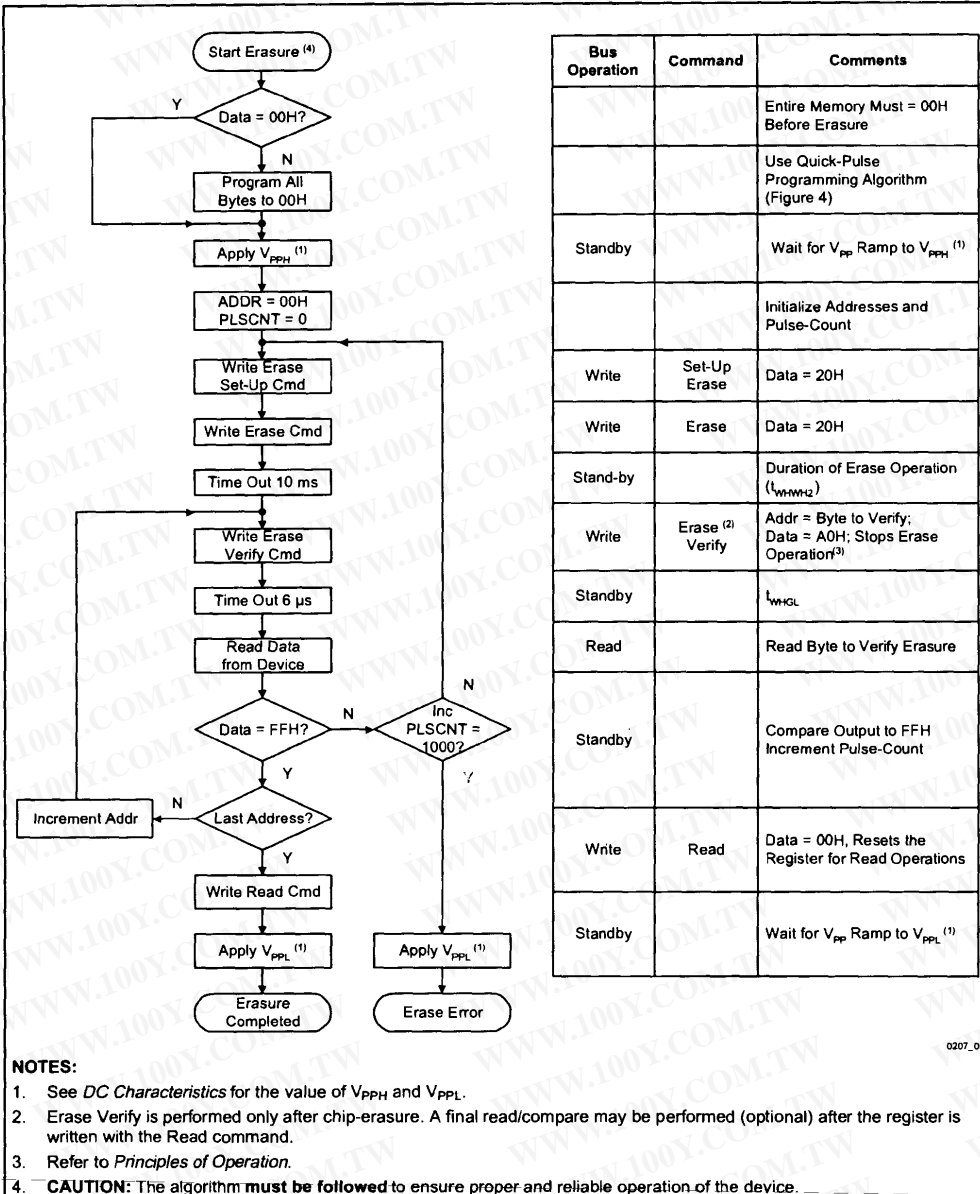

Figure 5. 28F010/28F020 Quick-Erase Algorithm
- Figure 5 illustrates the 28F010/28F020 Quick-Erase Algorithm flowchart.
In the case where the data read is not FFH, another erase operation is performed. (Refer Section 2.2.2.3, *Set-Up Erase/Erase Commands*.) Verification then resumes from the address of the last-verified byte. Once all bytes in the array have been verified, the erase step is complete. The device can be programmed. At this point, the verify operation is terminated by writing a valid command (e.g., Program Set-Up) to the command register. Figure 5, the *28F010/28F020 Quick-Erase Algorithm* flowchart, illustrates how commands and bus operations are combined to perform electrical erasure of the 28F010 and 28F020. Refer to *AC Characteristics—Write/Erase/Program Only Operations* and waveforms for specific timing parameters.
The 5 Volt Bulk Erase applies an internally-generated margin voltage to the byte. A microprocessor read cycle outputs the data. A successful comparison between the programmed byte and true data means that the byte is successfully programmed. Programming then proceeds to the next desired byte location. Figure 5, the *28F010/28F020 Quick-Pulse Programming Algorithm* flowchart, illustrates how commands are combined with bus operations to perform byte programming. Refer to *AC Characteristics—Write/Erase/Program Only Operations* and waveforms for specific timing parameters.
Erase execution then continues with an initial erase operation. Erase verification (data = FFH) begins at address 0000H and continues through the array to the last address, or until data other than FFH is encountered. With each erase operation, an increasing number of bytes verify to the erased state. Erase efficiency may be improved by storing the address of the last byte verified in a register. Following the next erase operation, verification starts at that stored address location. Erasure typically occurs in one second. Figure 5 illustrates the *28F010/28F020 Quick-Erase Algorithm* flowchart.